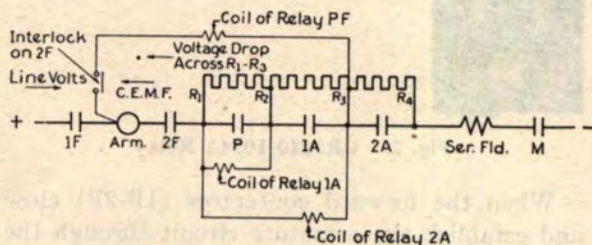

Fig. 4. Elementary Connection Diagram
Fig. 4 shows this application of this relay. It will be noted that the coils of the accelerating relays (1A) and (2A) are connected across divisions (R1-R2) and (R1-R3) respectively of the resistor.
Because of this the normally open relays (PF) and (PR) controlling plugging contactor (P), Fig. 4 and 5, are actuated by a combination of voltage drop across (R1-R2) and C.E.M.F. to
Referring to Fig. 4, the coil of relay (PF) is connected across the armature, the plugging division (R1-R2), and the first accelerating division (R2-R3) of the resistor, this circuit being established through the interlock only when the "Forward" contactors (1F-2F), are closed. The coil of relay (PR) is connected in a similar manner except that its circuit is established through an interlock only when the "Reverse" contactors (1R-2R) are closed.
Assuming contactors PF (1F-2F) and interlock to be closed, Fig. 4, the voltage drop across the resistor and the motor C.E.M.F. may be imagined as opposing the applied voltage as indicated by the arrows. The voltage drop across the resistor will produce instantaneous pickup of the relay, which will be held closed by the C.E.M.F. and voltage drop across resistor division (R2-R3) after division (R1-R2) is
Referring to Fig. 4 and 5, it will be noted that contactors (P), (1A) and (2A) are without any form of interlock and that the sequence of operation is assured through the method of connecting the accelerating relays.